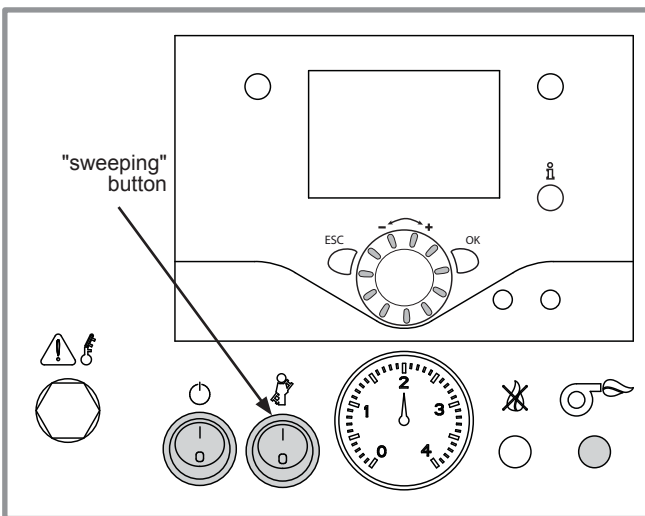

figure 56 - Sweeping function
- The "sweeping" (figure 56) push button authorises the burner operation for one hour.